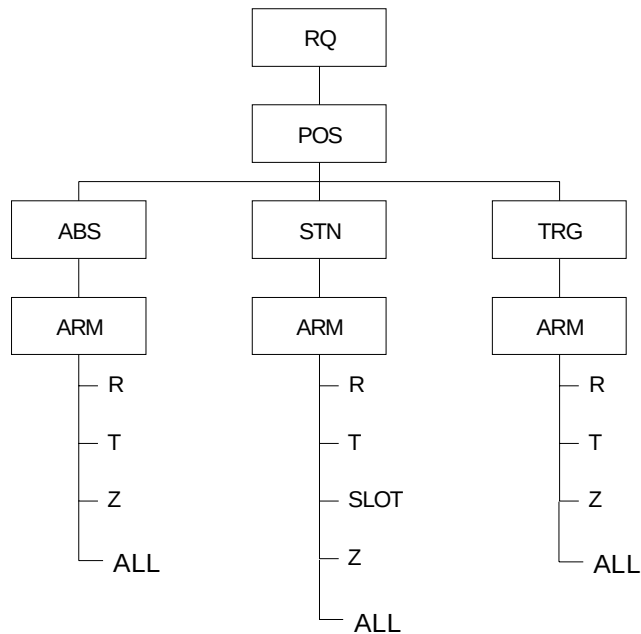

Figure 8-1: MagnaTran 7 Command Structure
The example of a typical command tree shown in Figure 8-1 provides the tree for the RQ POS (Request Position) command. In the example the RQ POS is the command, the ABS, STN, and TRG are the logical branches of the command, and ARM, R, T, SLOT, and Z are the variables that may be specified by the command. Note that this command (POS) is just one of the logical branches of the request (RQ) command type.